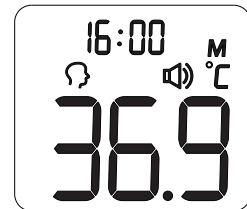

Figure 7
2. The thermometer will automatically memorize the last 30 temperature readings. Each memory also records the measurement date/time/mode icon. Each time the *Memory Button* is pressed, the screen displays past readings that correspond with a number 1-30. The number 1 reflects the most recent reading, while the number 30 reveals the oldest reading stored in memory. (See Figure 7)